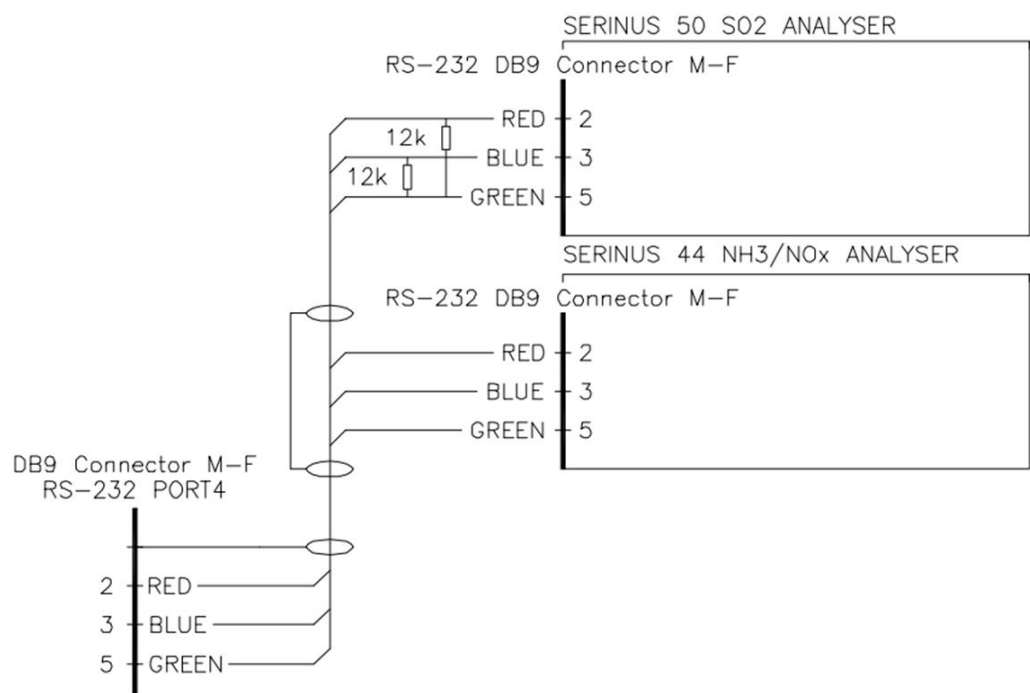

Figure 79 – Multidrop RS232 Cable Example
- A 12K ohm terminating resistor should be placed on the last connector of the cable (connect from pin 2 to pin 5 and from pin 3 to pin 5 – refer to Figure 79).